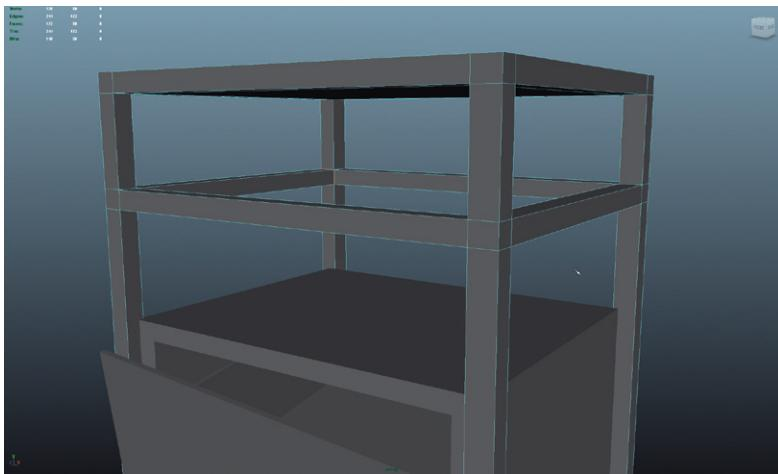

FIG 3.58 Bridging across all the supports.
Step 14: Repeat the bridging process to connect all sides (Fig. 3.58).